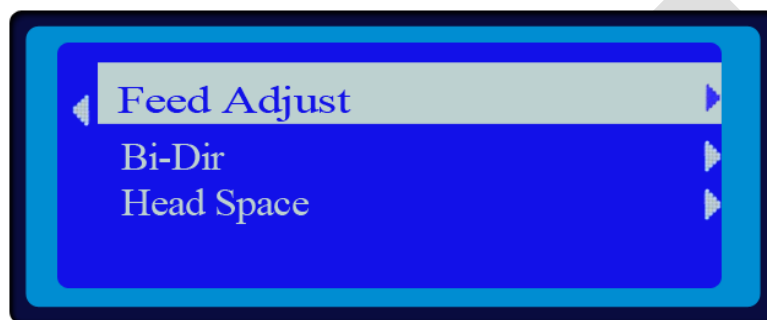

Fig 31: The Adjustment Screen
3. Select the **Bi-Dir** option from the list (Refer to Fig 31). The Bi-Dir test screen appears, as shown below: